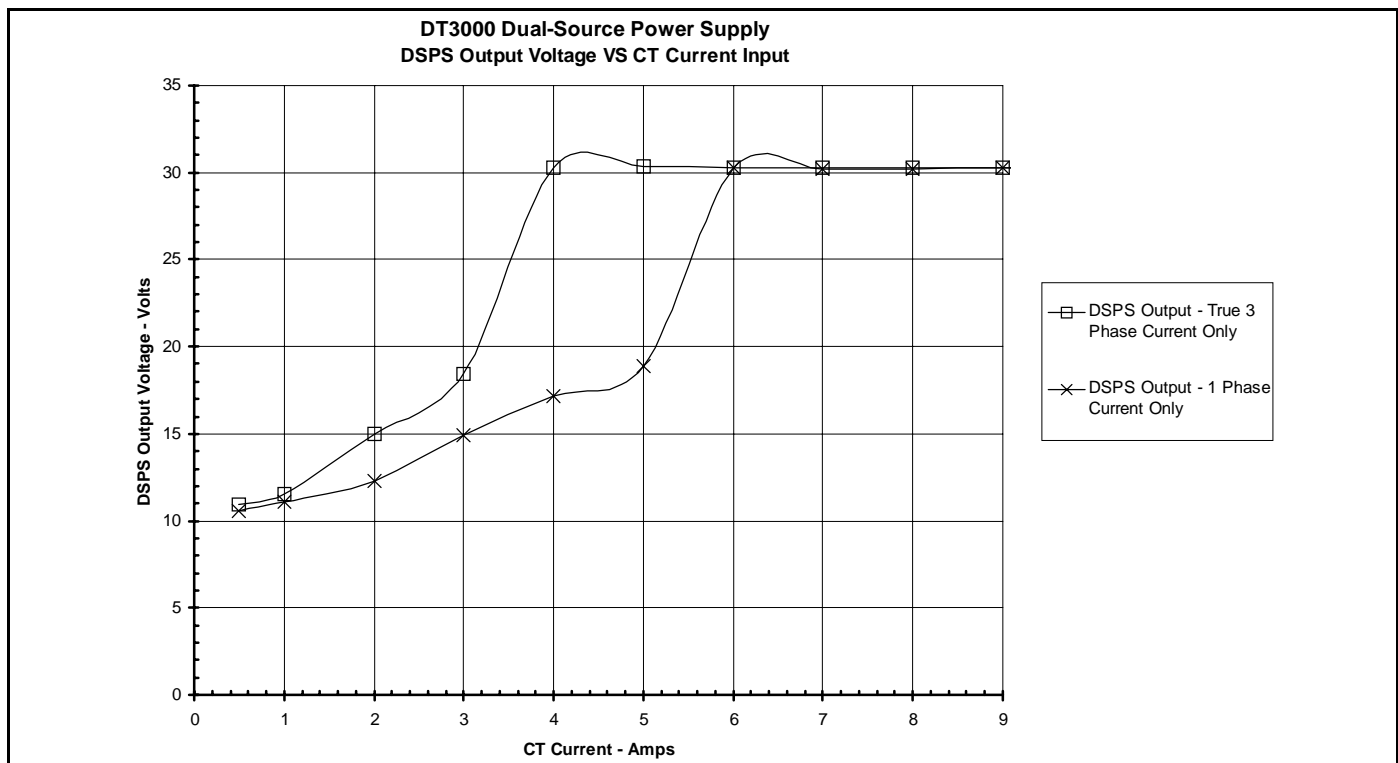

Fig. B-10 DSPS Output Voltage to Relay
- 7.1.8 The dc voltage on terminals TB1 - 5 & 6 should correspond very roughly to that from the plot in Figure B-10, DSPS output voltage as a function of three-phase current.